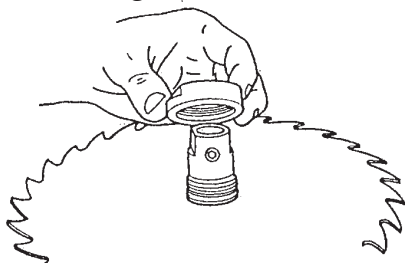

Figure B-59c
- b. Hold the blade with the teeth pointing toward you, as shown in Figure B-59b, then insert the arbor through the hole. Replace the nut and finger tighten it, as in Figure B-59c.